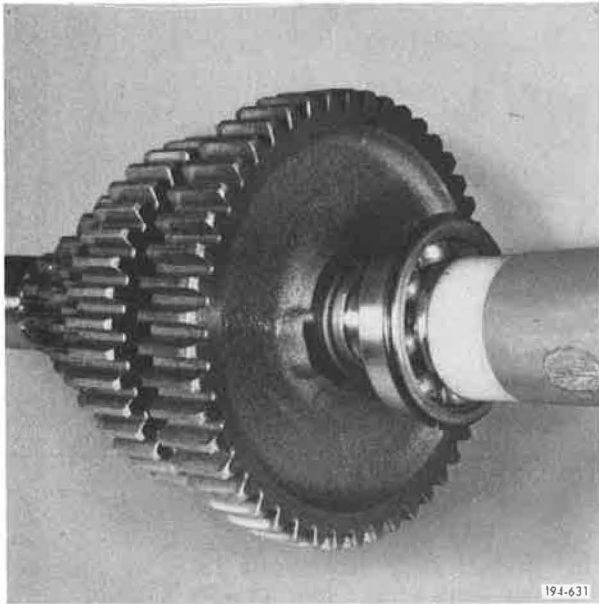

Figure 5-459. Installing Bearing
6. Install front countershaft front bearing, being careful to apply force to the inner race only. A soft mallet or suitable driving sleeve may be used. See Figure 5-459.